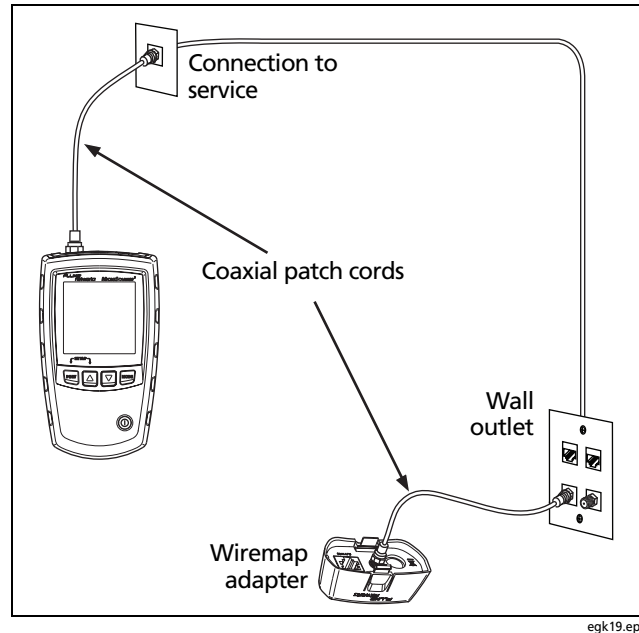

Figure 18. Connecting to Coaxial Cabling
- 2 Connect the tester and wiremap adapter or ID locator to the cabling as shown in Figure 18.